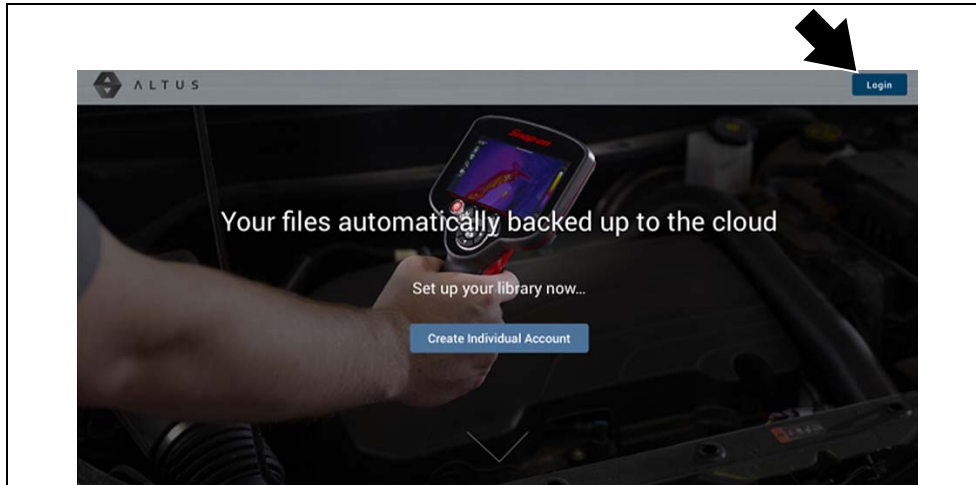

Figure 14-4
2. Select the **Login** icon (*Figure 14-4*).